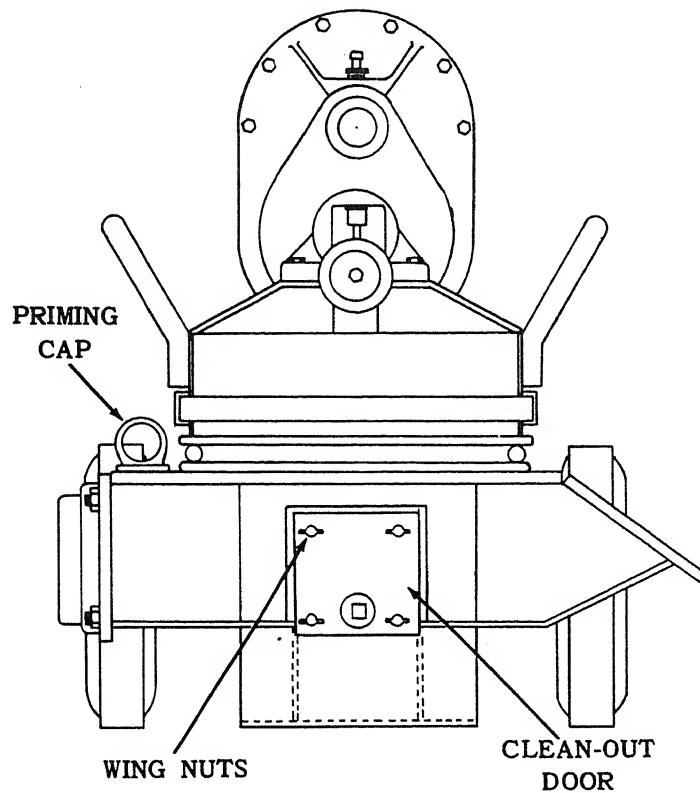

FIGURE 3
9. Movement to new worksite — Disconnect the suction and discharge hose from the pump. Drain pump body by removing the pump drain plug, reference, Fig. 7. If extremely hi-solid content water, mud or mucky water has been pumped, the pump body should be flushed out with clean water. The clean-out door may be removed for this purpose, reference, Fig. 3 and 7.
14. Pump body clean-out door - Fig. 3 - A clean-out door is provided for quick inspection and clean-out. After pumping of muddy, sludge water, or water containing chemicals harmful to rubber, the pump body should be flushed out with clean water. Access to the inside of the pump body is made by removing four wing nuts holding clean-out door to pump body and remove door. Place door and rubber gasket. Turn wing nuts down tight.